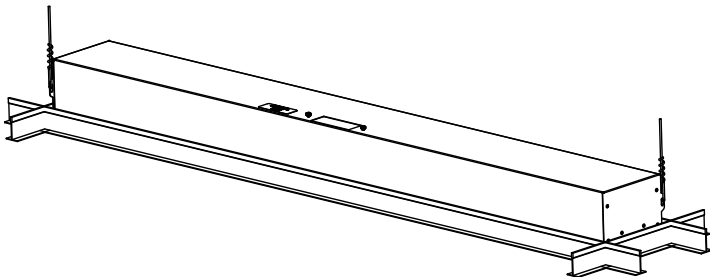

Figure 2
4. If securing fixture to the superstructure with hanger wire (by others) loop wire through holes in cross-corner flanges at ends of fixture. See Figure 2.